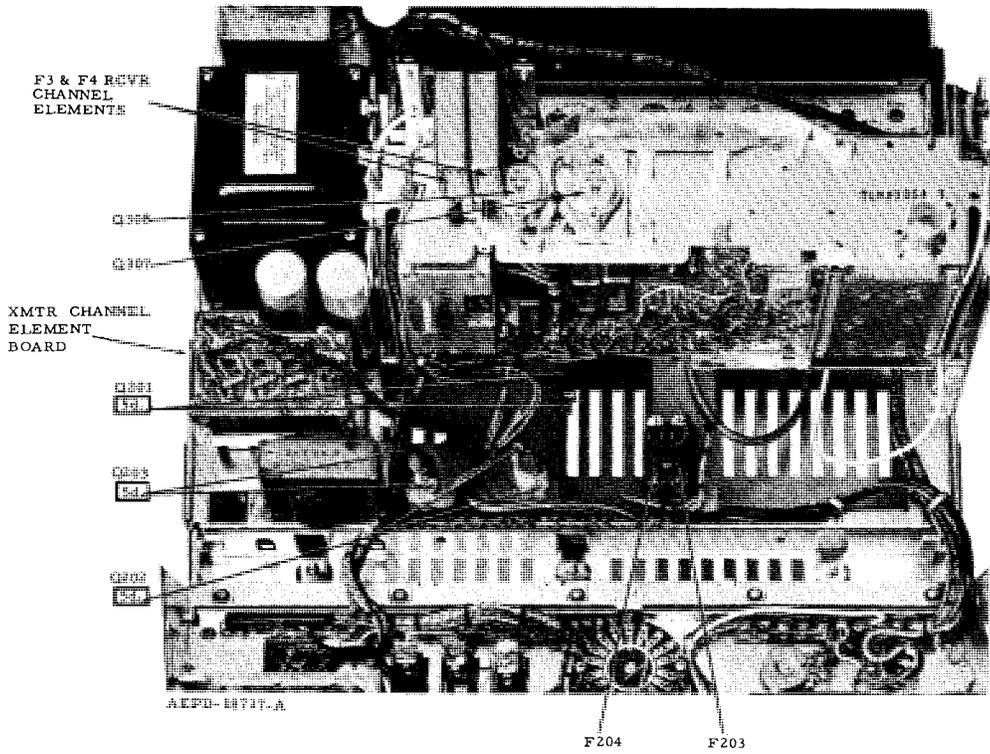

Figure 2.
The letters and numbers that appear in the boxes near the photographs indicate corresponding steps in the following paragraphs. Example: 5. d. in Figure 2 indicates the location of items discussed in sub-paragraph "5. d."
and Q203 pull the transistors out of their sockets. When removing transistor Q201, unsolder its leads from terminal board TB9. Refer to Figure 2 for transistor location and to Terminal Board Location and Pin Assignment Detail EPD-18625 in the cabling and functional diagrams section of this manual for location of terminal boards.
(1) Fuses F201 and F202 are accessible from the rear of the base station chassis. See the control line connection diagram in the INSTALLATION & OPERATION section of the manual for fuse location.
(2) Fuses F203 and F204 are installed in clips on the radio set chassis. Loosen two screws securing the receiver to the swivel bracket and rotate the receiver away for fuse accessibility. See Figure 2 for fuse locations.